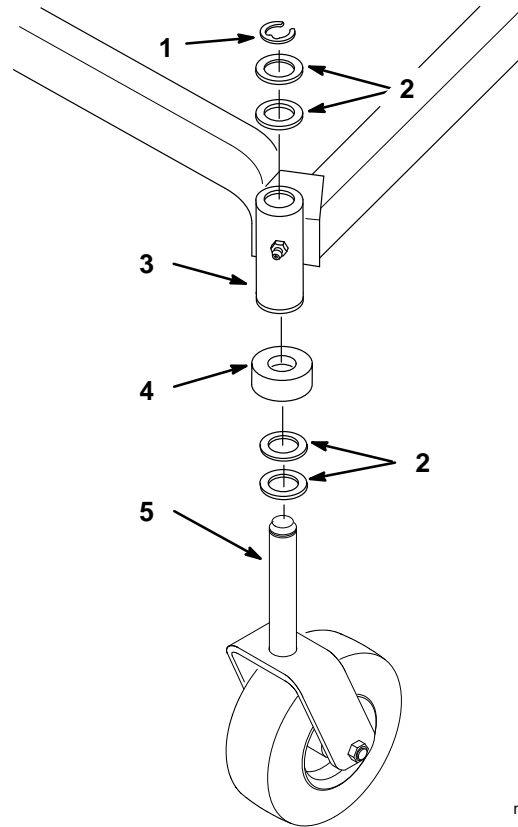

Figure 1
1. Place two (2) thrust washers and the spacer onto the castor wheel fork (Fig. 1).
2. Insert the castor wheel fork into the carrier frame mounting tube (Fig. 1).
3. Install two (2) thrust washers onto the castor wheel fork, then secure with a retaining ring (Fig. 1).